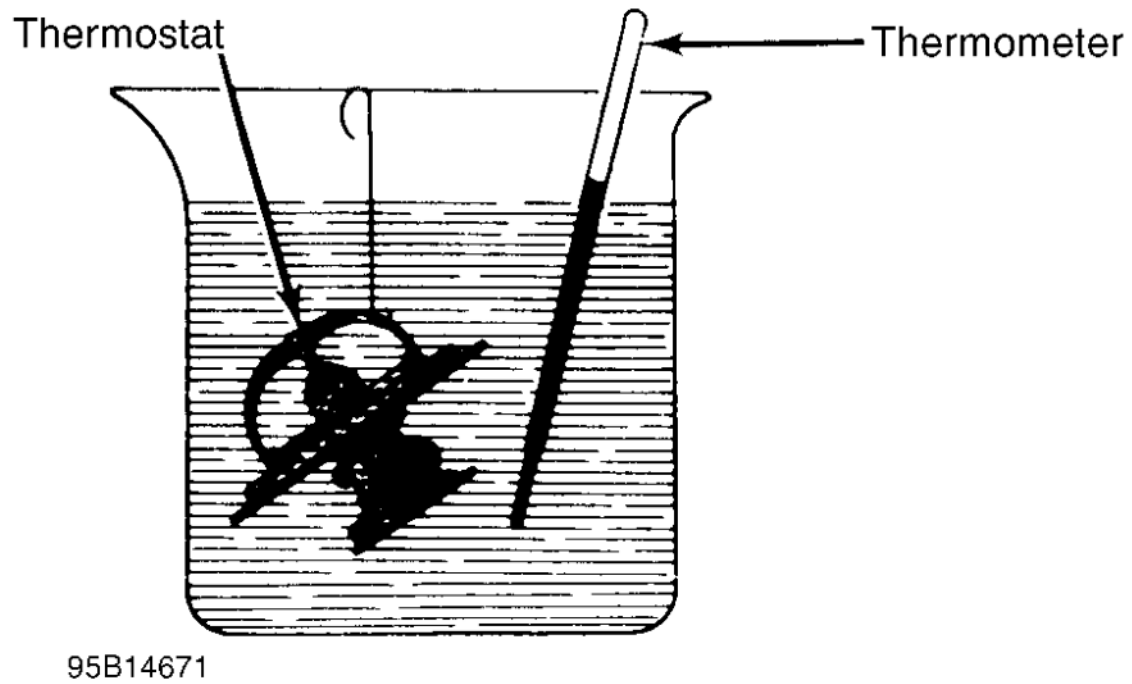

Fig. 1: Testing Thermostat in Coolant/Water Solution
1. Remove and inspect thermostat for corrosion and proper seating of valve. If okay, suspend thermostat and thermometer in a 50/50 mixture of coolant and water. See Fig. 1. DO NOT allow thermostat or thermometer to touch bottom or container. Heat water until thermostat begins to open.